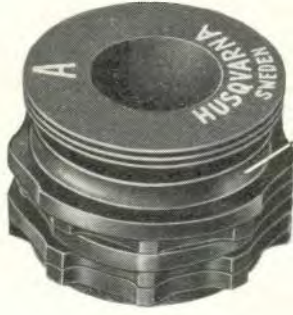
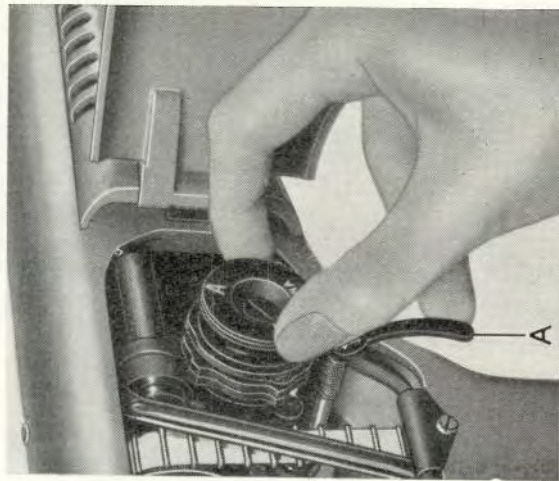

Fig. 38.
Fig. 40.
4. Take hold of the cam set with the thumb and forefinger of your right hand, and push down the locking arm (A, Fig. 40) into the vertical position. Pull out the cam set.
5. Holding the new cam set in the same way, push it into the shaft with its code letter uppermost so that the locking arm (A, Fig. 40) will fall into the groove (Fig. 38).